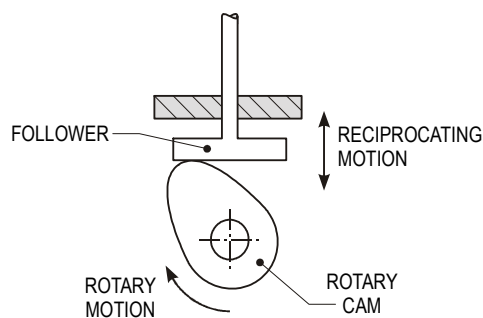

Figure 2
2. The pear-shaped cam (figure 2)